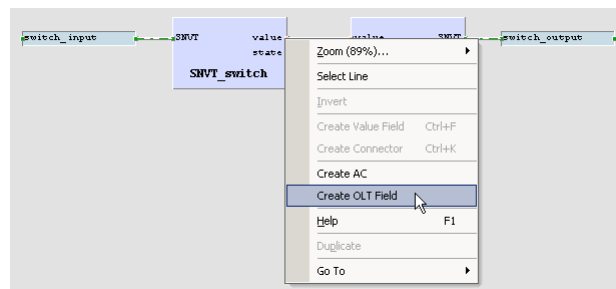

Figure 73: Create online test fields
- For later debugging, it is good practice to add online test fields to the drawing, to display the current value of the signals during online test. To do this, right-click on the value output of the left function block and select **Create OLT Field** from the context menu, as shown in Figure 73.